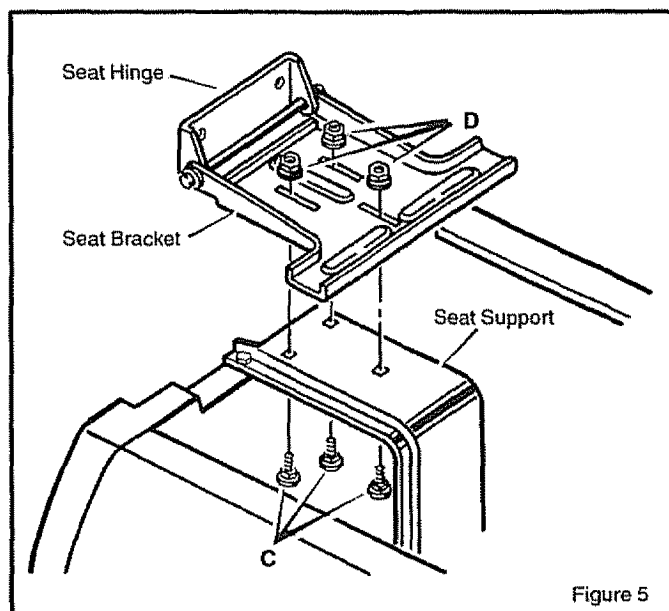

Figure 5
1. Set the **seat bracket** on the **seat support** (Figure 5). Pull the **wire harness** between the **seat hinge** and the **seat bracket**.